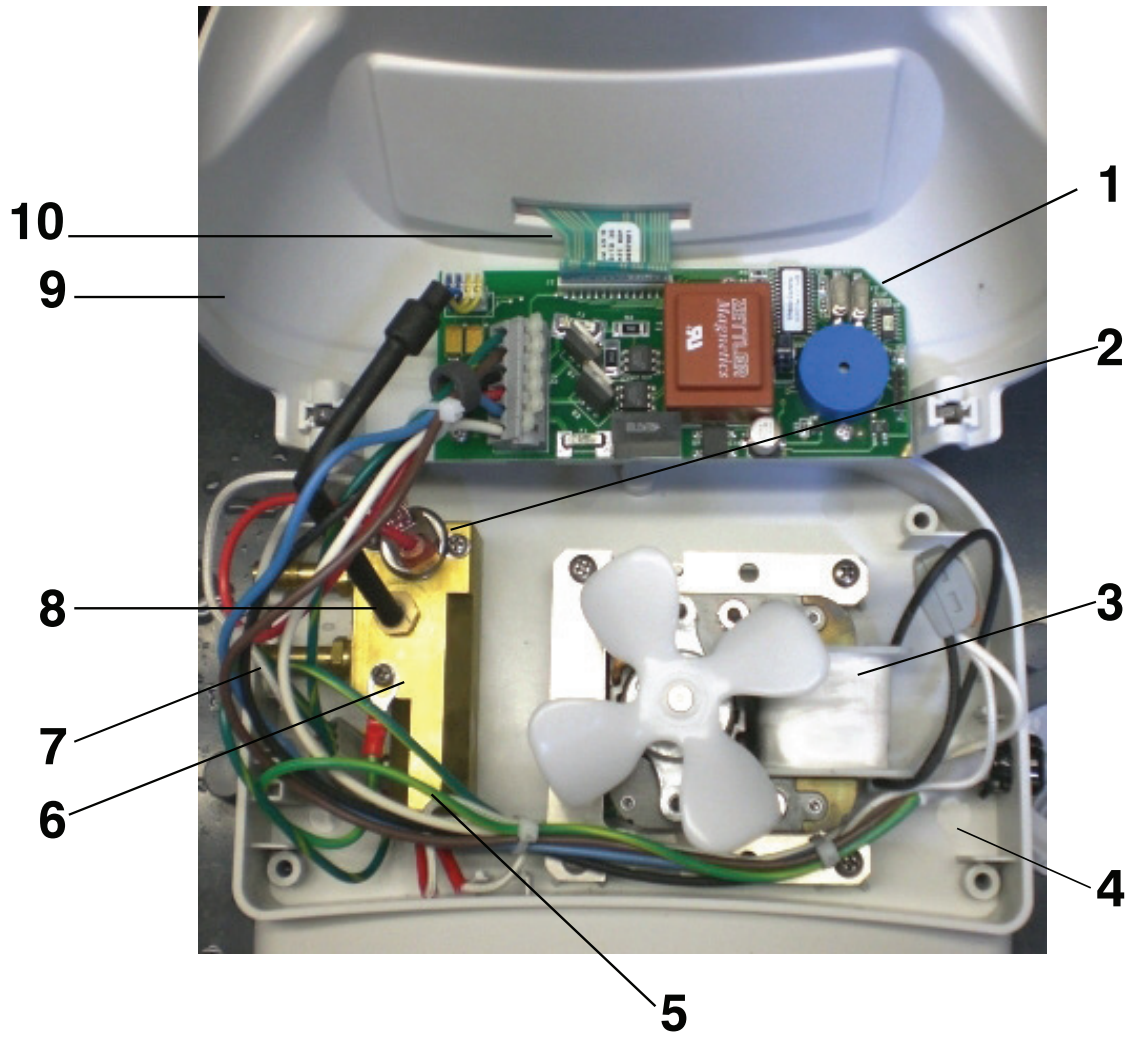

Figure 5: T/Pump® Temperature Therapy Pump service items
- Using a ground resistance meter, measure the resistance between the ground pin on the plug and the brass manifold block, see Figure 5 on page 25 item 6. You can access the ground through the hole where the hose connects to the pump (see Figure 4 on page 20).
The pump is a sump configuration. It is magnetically coupled to an impedance protected, shaded pole AC Motor (Figure 5 on page 25 item 3).
The machine return hose fitting (Figure 5 on page 25 item 7) is internal to act as an opening. This maintains a back pressure in the pad to make it resistant to flow restrictions.
6. Remove the Keypad Ribbon cable (Figure 5 on page 25, item 10) from the PC Board (Figure 5 on page 25, item 1).
7. Remove the Temperature Sensor (Figure 5 on page 25, item 8) from the PC Board.
6. Remove the Temperature Sensor (Figure 5 on page 25, item 8) from the Brass Heater Manifold.